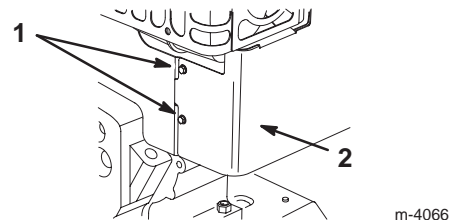

Figure 18
If you operate the engine when the air temperature is above 40°F (4°C), remove the carburetor heater box (Fig. 18).
1. Disconnect the wire from the spark plug and ensure that the wire does not contact the plug (Fig. 18).
4. Remove 2 screws that secure the carburetor heater box in place (Fig. 18).